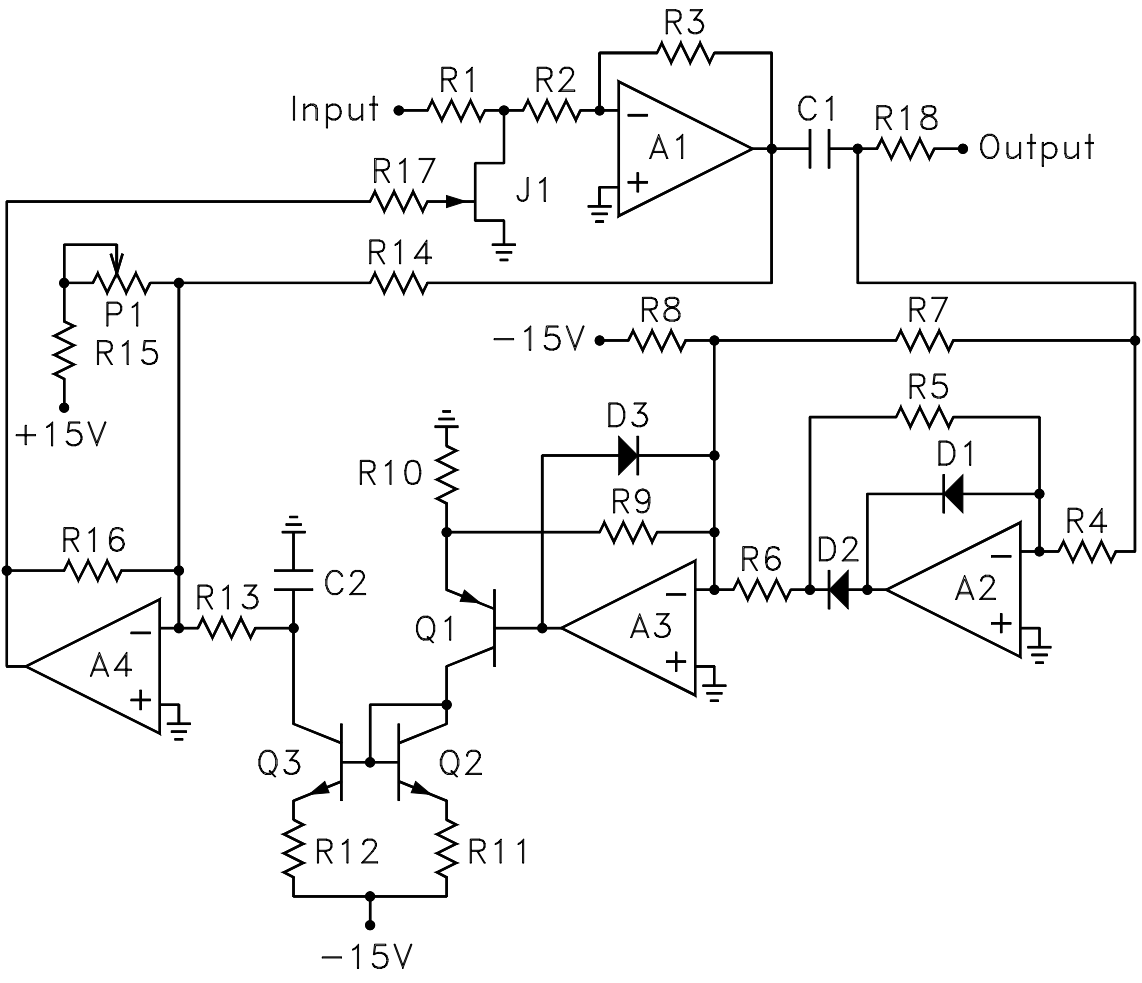

Figure 1: Basic circuit diagram of the compressor/limiter.
This circuit uses a p-channel JFET. Your design project is to realize this circuit using an n-channel JFET. The circuit is shown in Figure 1. This circuit differs from that in the reference paper in that the JFET is an n-channel device, the diodes are reversed, and the polarity of two power supply voltages is reversed.
The first part of this lab is to realize the detector part of the circuit in Figure 1 consisting of op amps A_2 and A_3 . The circuit is not to be connected to the VCA until it is operational. The first step is to assemble the precision rectifier circuit consisting of A_2 , A_3 , D_1 , D_2 , and resistors R_4 , R_5 , R_6 , R_7 , and R_9 . Omit D_3 , R_8 , and the circuit to the left of A_3 . The left node of resistor R_9 should connect to the output of A_3 . The specifications are:
- Connect the output of A_3 to the base of Q_1 and reconnect D_3 and R_9 as shown Figure 1.